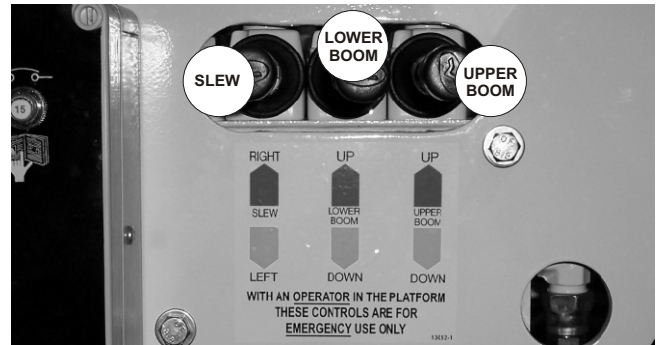

Figure 11.10 - Ground Control Levers
3. To lower the lower boom operate the lower boom valve lever (see Figure 11.10).
4. To slew while lowering operate the slew valve lever (see Figure 11.10).